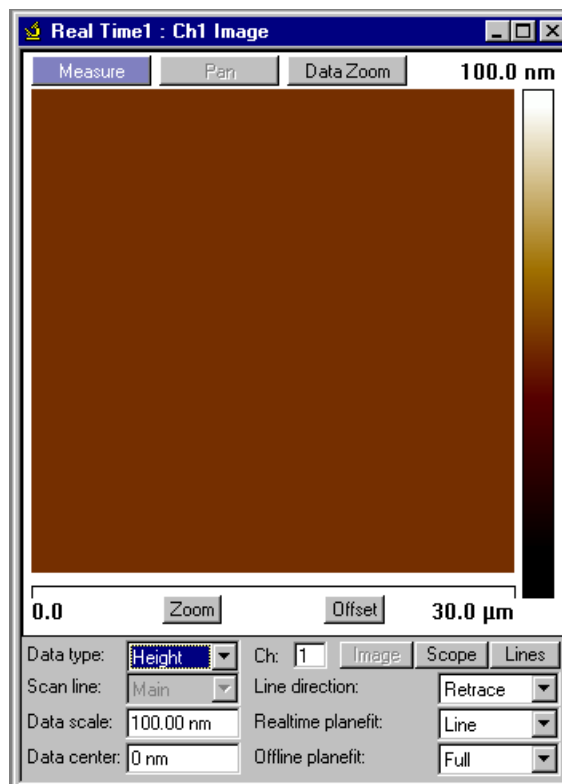

Figure 17: the scan display.
- “Scan display” shows the image or the scope of any channel. There is a useful trick: right-click on the bottom of the image and select “show channel parms” to have the options you see at the bottom of the scan display (Figure 17).